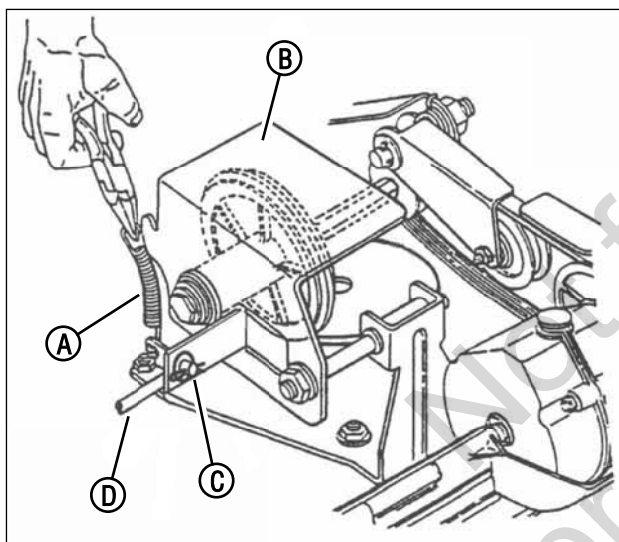

Figure 26: Adjusting the driven disc
- Remove the driven disc spring (A, Figure 26) from the driven disc assembly (B). Also remove the pin and washer (C) from the transfer rod (D), and remove the end of the transfer rod from the hole in the driven disc assembly.
- Remove the pin and washer (C, Figure 26) from the transfer rod (D), and remove the end of the transfer rod from the hole in the driven disc assembly.